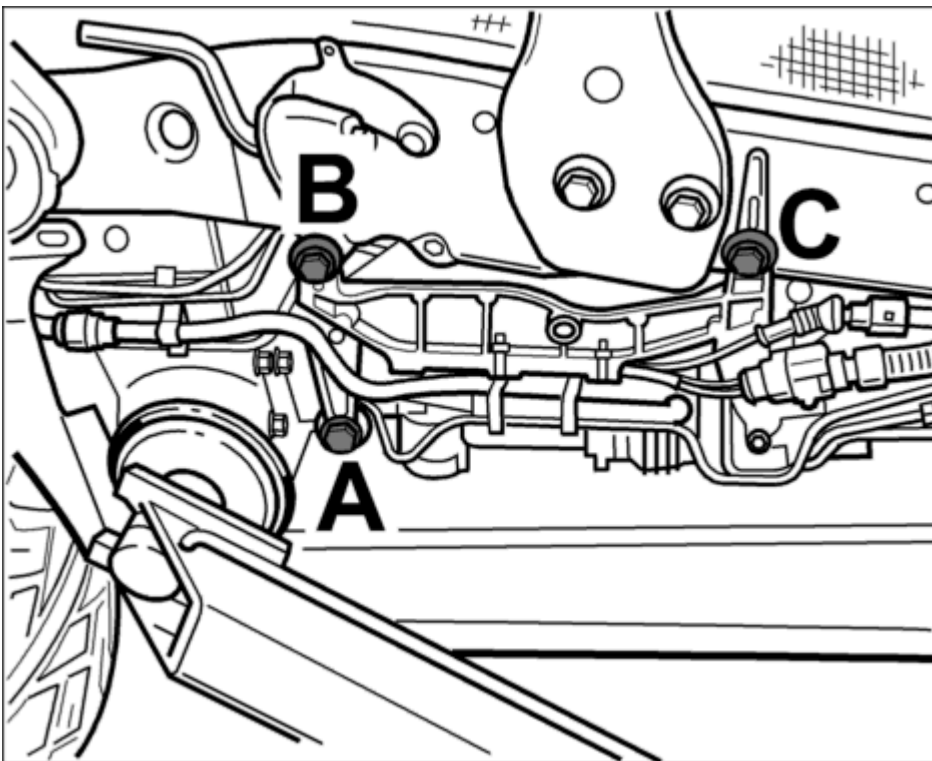

Fig. 56: Insert compressor unit and mount on the body
2. Insert compressor unit and mount on the body -(A, B & C)- . See **Fig. 56**.